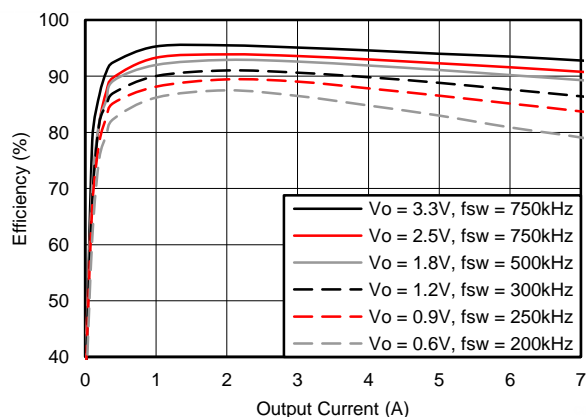
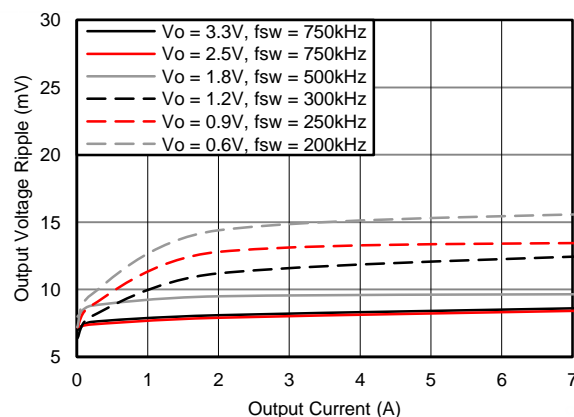
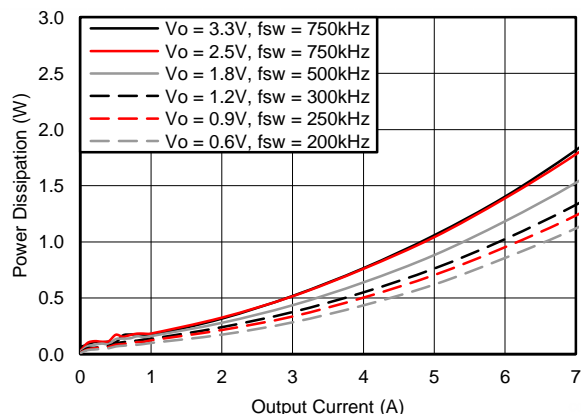

Figure 7. Efficiency vs. Output Current
Figure 8. Voltage Ripple vs. Output Current
Figure 9. Power Dissipation vs. Output Current
- (1) The electrical characteristic data has been developed from actual products tested at 25°C. This data is considered typical for the converter. Applies to Figure 7, Figure 8, and Figure 9.